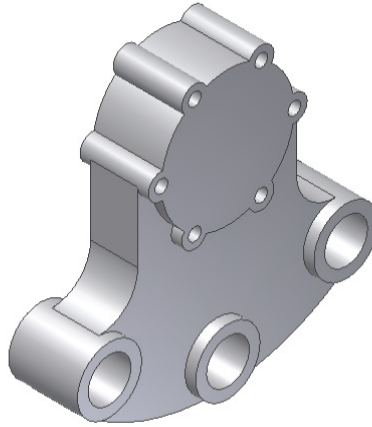

Figure 6-141 Model after creating the circular pattern of the join feature and the hole
- Create the circular patterns of the last join feature and the hole, refer to Figure 6-141.
5. Accept the other default values and choose **OK** to create the circular pattern. The model after creating the pattern is shown in Figure 6-141.